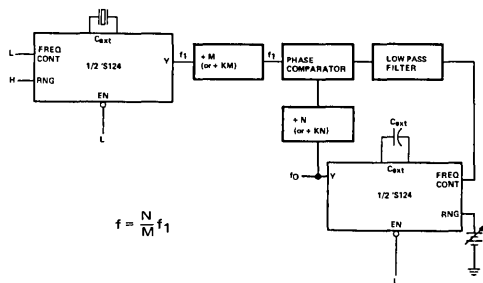

FIGURE 1—PHASE-LOCKED LOOP
A basic crystal-controlled phase-locked loop is illustrated in Figure 1. This application can be used for implementation of:
- Frequencies $\frac{f_1}{M}$ and $\frac{f}{N}$ can be divided equally by the same constant (K) also shown in Figure 1. The constant can be any value greater than unity ($K > 1$), and should be selected to yield frequency ranges that can be handled adequately by the phase-comparator and filter. The output frequency (f_o) retains the same relationship as previously explained because now: